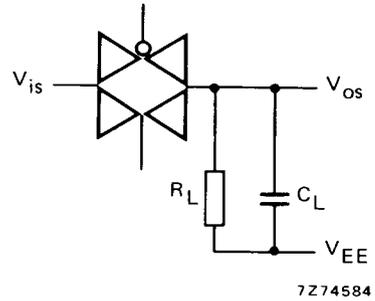

Fig. 9.
- $R_L = 10 \text{ k}\Omega$; $C_L = 15 \text{ pF}$; channel ON; $V_{is} = \frac{1}{2} V_{DD(p-p)}$ (sine-wave, symmetrical about $\frac{1}{2} V_{DD}$); $f_{is} = 1 \text{ kHz}$; see Fig. 9.
- $R_L = 1 \text{ k}\Omega$; $C_L = 5 \text{ pF}$; channel OFF; $V_{is} = \frac{1}{2} V_{DD(p-p)}$ (sine-wave, symmetrical about $\frac{1}{2} V_{DD}$); $20 \log \frac{V_{os}}{V_{is}} = -50 \text{ dB}$; see Fig. 9.
- $R_L = 1 \text{ k}\Omega$; $C_L = 5 \text{ pF}$; channel ON; $V_{is} = \frac{1}{2} V_{DD(p-p)}$ (sine-wave, symmetrical about $\frac{1}{2} V_{DD}$); $20 \log \frac{V_{os}}{V_{is}} = -3 \text{ dB}$; see Fig. 9.